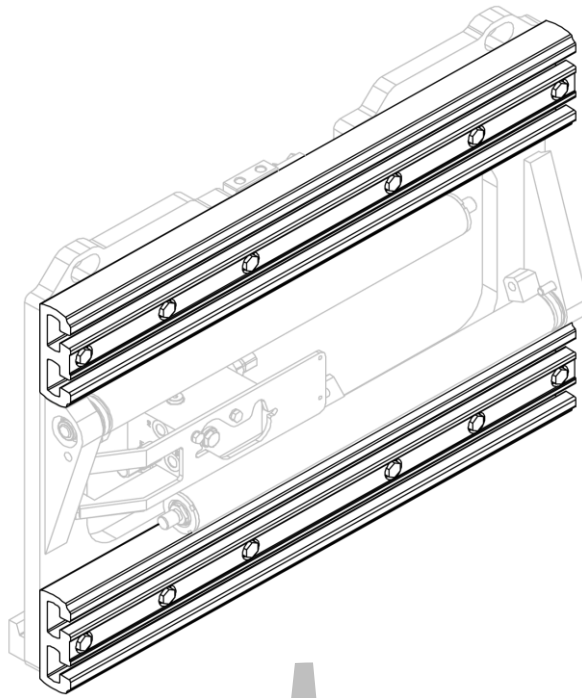
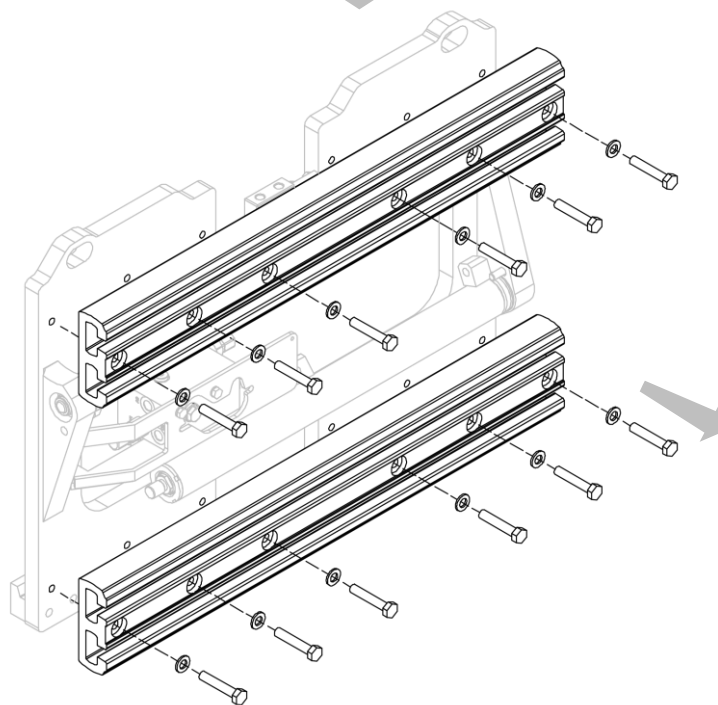

Figure 26
Figure 27
2. Remove the aluminium profiles, one at a time, after unscrewing the bolts (see *Figure 26* and *Figure 27*).